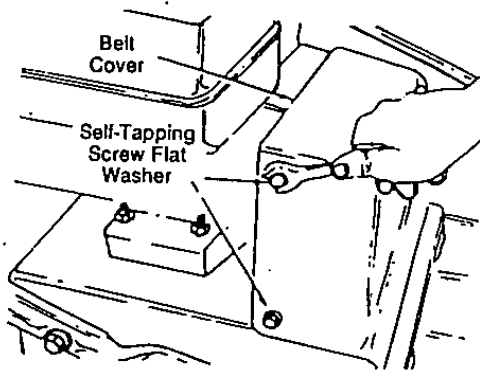

FIGURE 13
- Remove the plastic belt cover on the front of the engine by removing three self-tapping screws and flat washers. See figure 13.